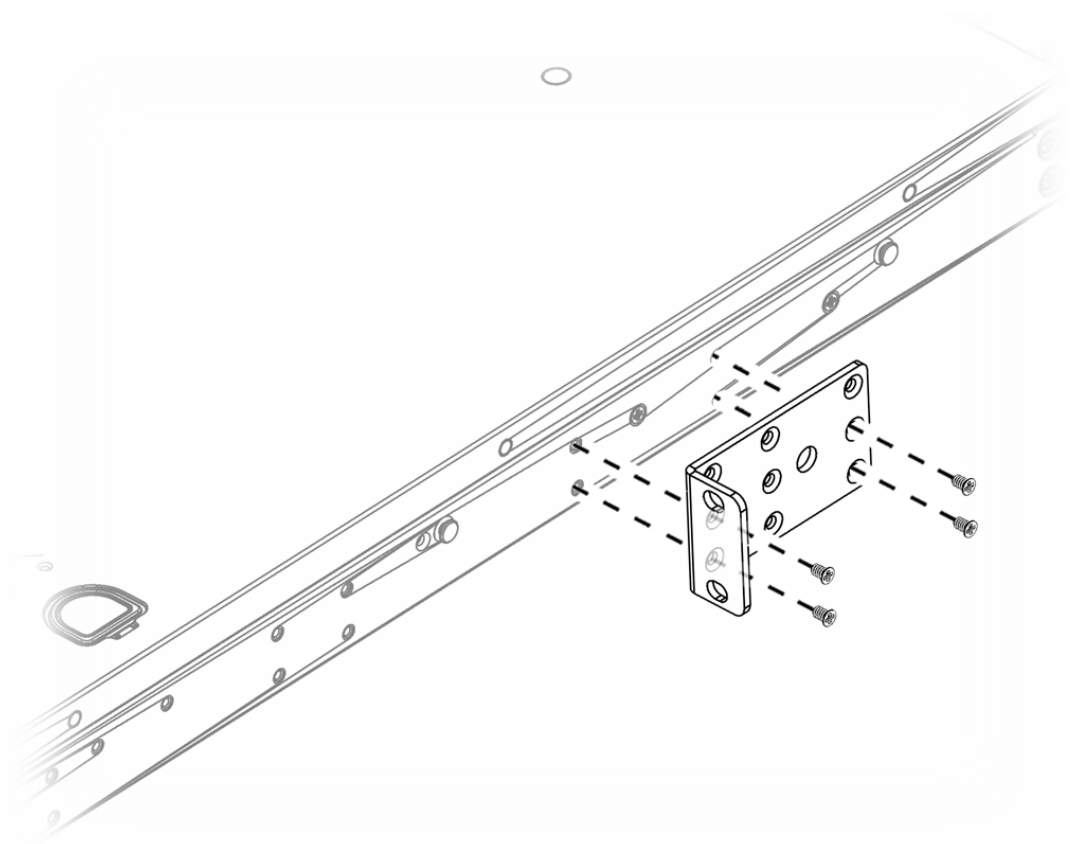

Figure 17: Attaching a Short Mounting Bracket (Ear): Middle of Switch
- b. For a mid-mount, position the bracket so that the flange (ear) is positioned slightly more than halfway between the front and back of the switch, as shown in Figure 17.